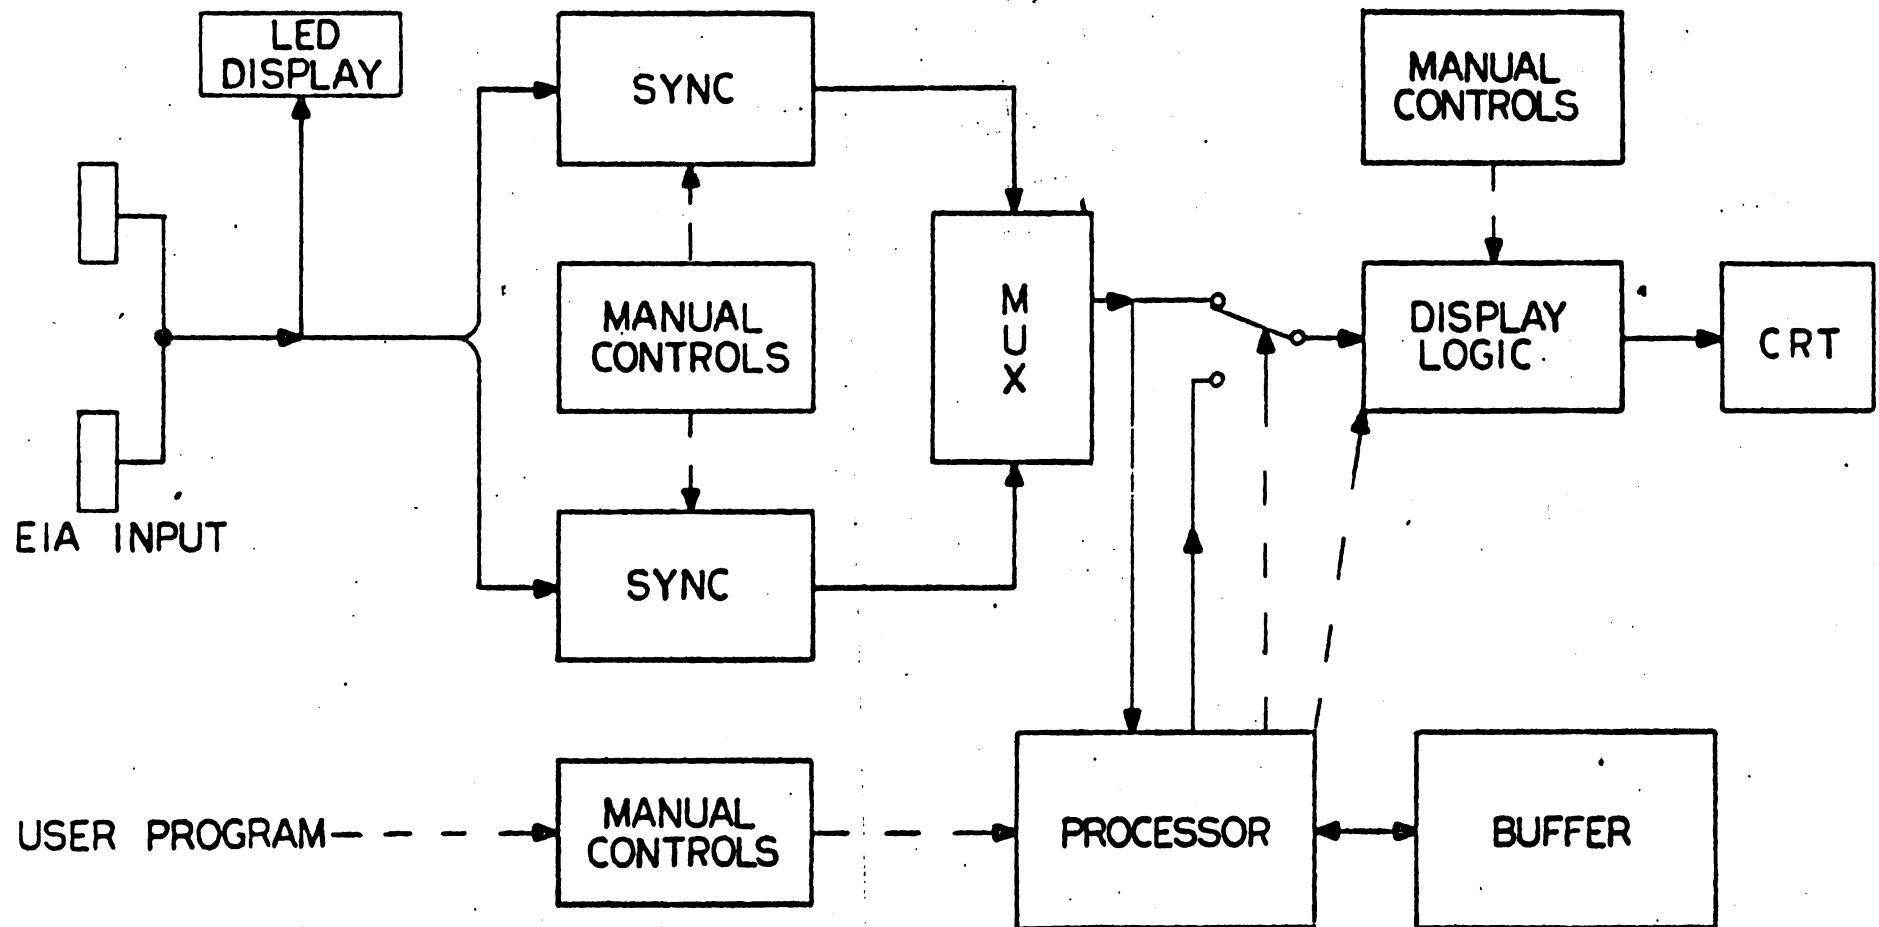

FIGURE 1
The Spectron DATASCOPE Model D-501 is a portable and programmable test instrument for troubleshooting and monitoring data communications channels. It provides a CRT display of all traffic at the business machine (EIA RS-232) interface of any standard modem. It is compatible with most forms of data transmissions, whether synchronous or asynchronous, and it operates at any speed up to 64 KBPS. It may be connected to the data link directly or through a Remote Connection Unit which bridges the interface and provides electrical isolation and signal level conversion without adding cable length or increasing electrical loading. The Block Diagram, Figure 1, shows internal DATASCOPE components.
During on-line operation data flows through separate hardware synchronizers, one for send, one for receive, and is multiplexed for delivery to the display. (See Figure 1.) Switches control the sync logic and the display format as in the 600 series Datascopes. The processor is bridged to the multiplexed data bus at the display input in such a way that either the line or the processor can drive the display. When the line drives the display, the processor monitors the data stream and stores the last 2000 characters in a buffer for future playback. At the same time, a stored program analyzes the stored data and recognizes complex patterns to either freeze the display or count or time events of interest. When the Datascope is "stopped" (i.e. not operating on-line) the processor delivers stored data to the display in such a way that the user can scroll back and forth through the last 2000 characters that arrived from the line. Stopping may be done manually as in the 600 series Datascopes, or under program control.
2.09.1 SEND or RCV - reverse the electrical polarity of signals delivered to the Sync Logic (see Figure 1.)